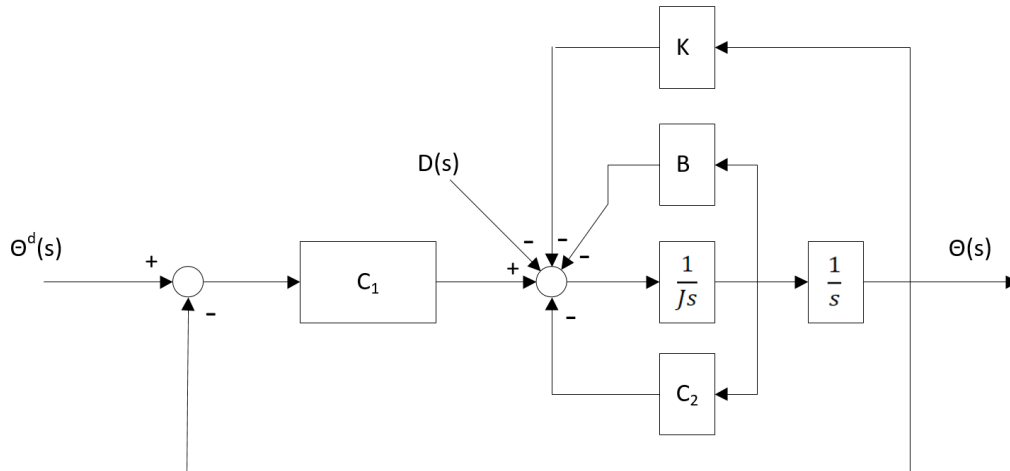

Figure 4: Control system
- (2.5 %) Figure 4 shows the system with controller in Laplace domain. What is the name of the controller used here?
- (10 %) Working further with the controller in figure 4, how can we remove the steady state error, and still have a fast responsive system that reacts to the rate of change of the process value? What is the name of this new controller? Find the closed loop transfer function between the input value ($\Theta^d(s)$ - desired angle) and output value ($\Theta(s)$ - actual/measured angle) for the system with this new improved controller. Use the final value theorem to calculate the steady state error for the closed loop control system with this new improved controller, when both the desired angle $\Theta^d(s)$ and the disturbance $D(s)$ are "step inputs". Comment on the result.